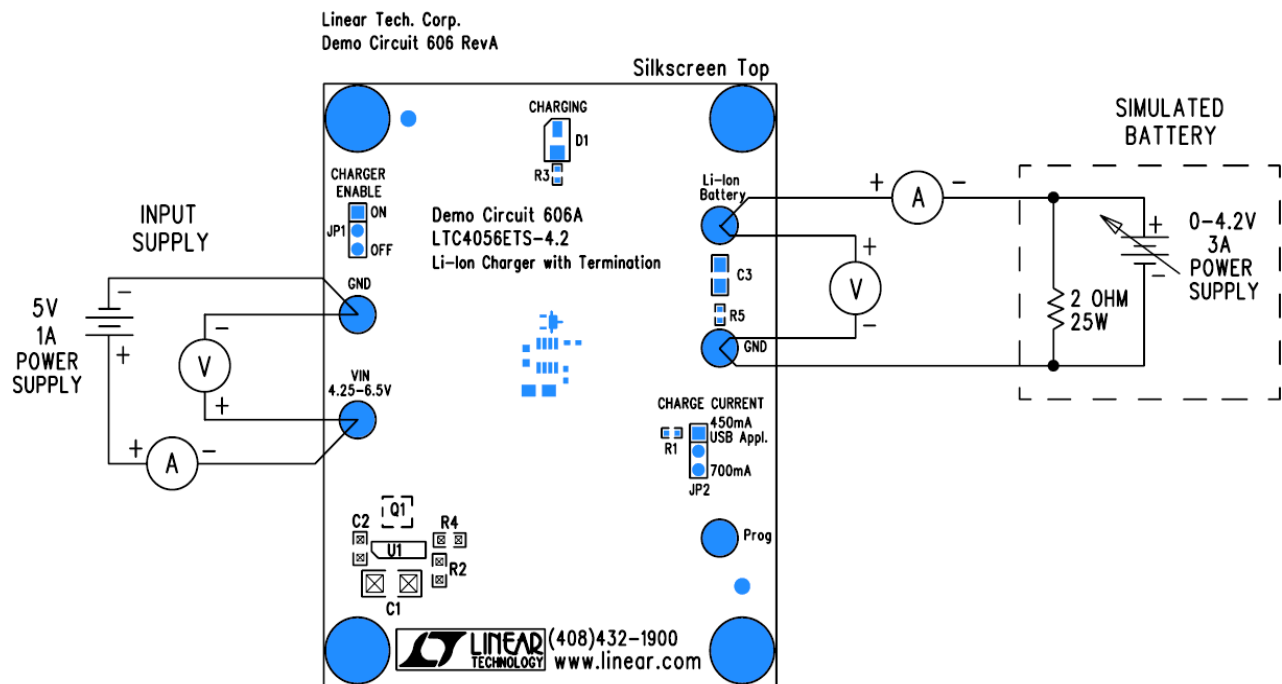

Figure 1. Proper Measurement Equipment Setup
Demonstration circuit 606 is easy to set up to evaluate the performance of the LTC4056-4.2. Refer to Figure 1 for proper measurement equipment setup and follow the procedure below:
2. With power off, connect the meters and input power supply as shown in Figure 1.
3. Connect the demo board to the battery simulator as shown in Figure 1.